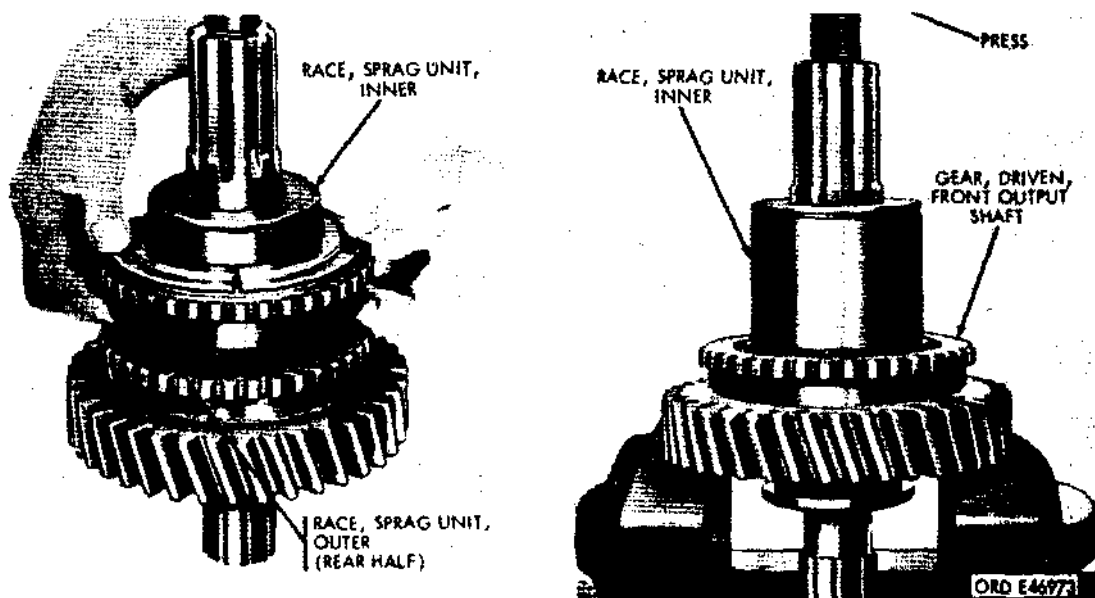

Figure 214. Completion of sprag unit disassembly
- (b) Remove rear half of the sprag unit outer race (fig. 214) again using sprag unit retaining washer to hold sprags. Turn this assembly to right as it is withdrawn.
- (c) To remove sprag unit inner race, place remainder of unit in arbor press and press shaft free of inner race and front output shaft driven gear (fig. 214). Remove Woodruff key.
- (4) Install sprag unit assembly.
- (a) Inner race. Insert Woodruff key (GG, fig. 229) into groove in front output shaft (FF, fig. 229) and install sprag unit inner race (fig. 214) onto shaft.
- (2) Remove transfer front cover assembly.
- (a) Remove locking wire, cap screws, retaining washer (used also as speedometer drive plate), and intermediate shaft drive gear (fig. 214). Use suitable puller, if necessary, to remove gear.